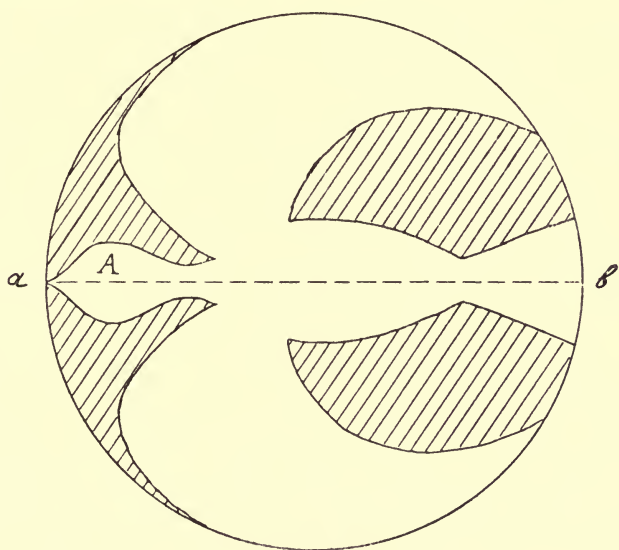

FIG. 476
In making one's first glider one cannot do better than copy a bird. On a piece of paper draw a circle, fold it in half, draw a bird on one half, as in Fig. 476, cut it out, when the paper is opened it will appear as in the figure. If this bird is thrown head first toward the ground, it will probably fall. If two little bits of cardboard are gummed on each side of his head, he will make a better flight and land on the ground after making a gentle curve. A still better bird may be cut from cardboard, a half cut is then made along *ab* to bend it, and the head is weighted with sealing-wax. How well this bird flies depends on the weight, and to some extent on the shape of the bird. Birds of various shapes and with different amounts of sealing-wax should be tried, until one is made that glides to the ground in a long, graceful curve.
(1) Draw the bird in a circle as already explained, this ensures that the wings will be exactly balanced.
(2) If the head in Fig. 476 is not long enough for a graceful flight, a longer head cut from cardboard can be pasted on.
(3) If the bird dives quickly down head first, you know that the head is too heavy, or the neck too long.
(4) If the bird rises and then falls the head is too light and probably not long enough.